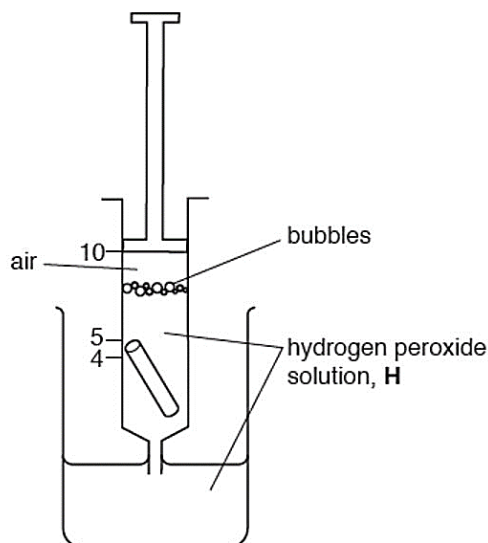

Fig. 1.3
- 9 Pull the plunger out to the 10 cm³ mark so that **H** enters the syringe, as shown in Fig. 1.3.